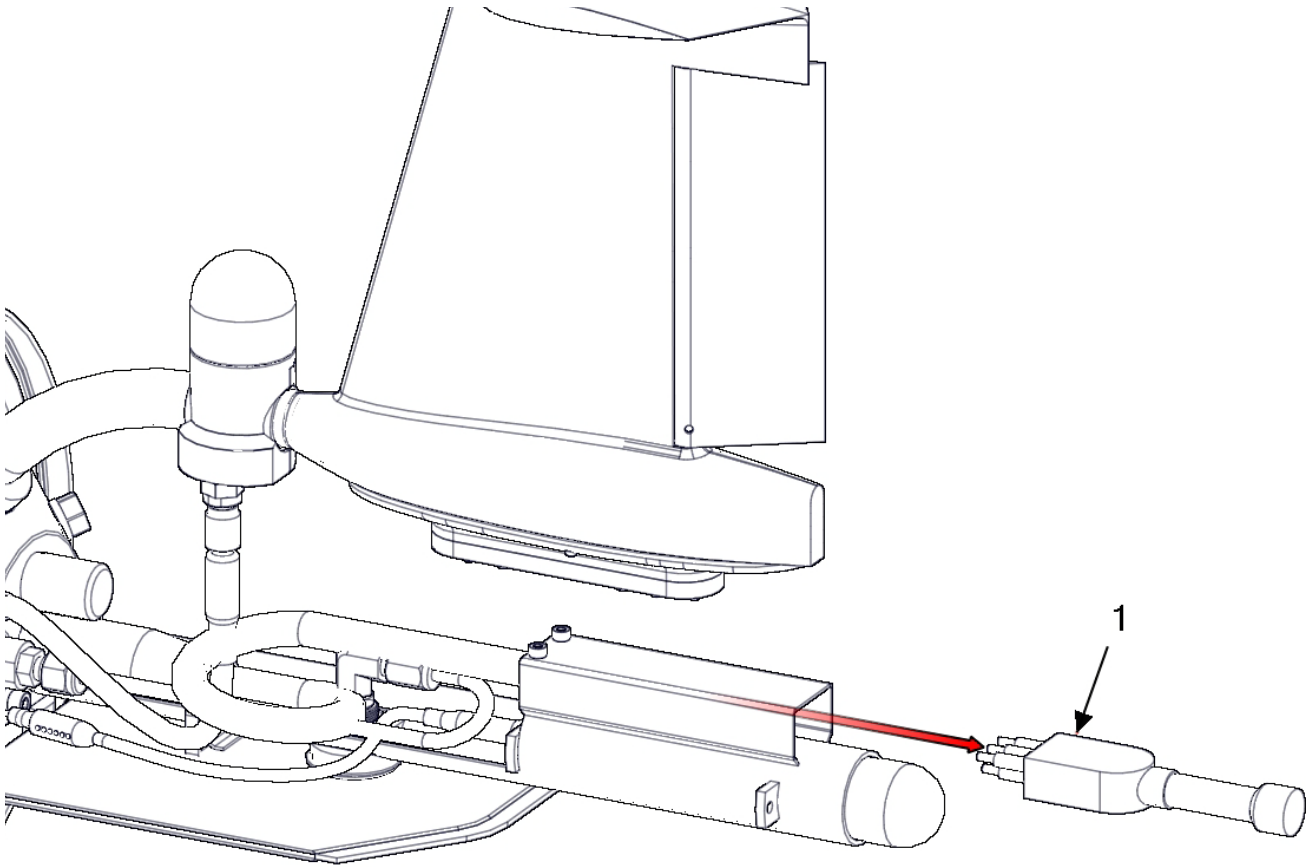

Figure 2-24 Stop plug (red) and go plug (green).
Remove the stop plug (red) or go plug (green) (Figure 2-24, Item 1) from the glider aft end cap assembly by pulling firmly.
1. Before installing the stop plug (red) or go plug (green) (Figure 2-24, Item 1), ensure that the pins are not bent.
2. Install the stop plug (red) or go plug (green) (Figure 2-24, Item 1), by pushing firmly until it is seated properly.